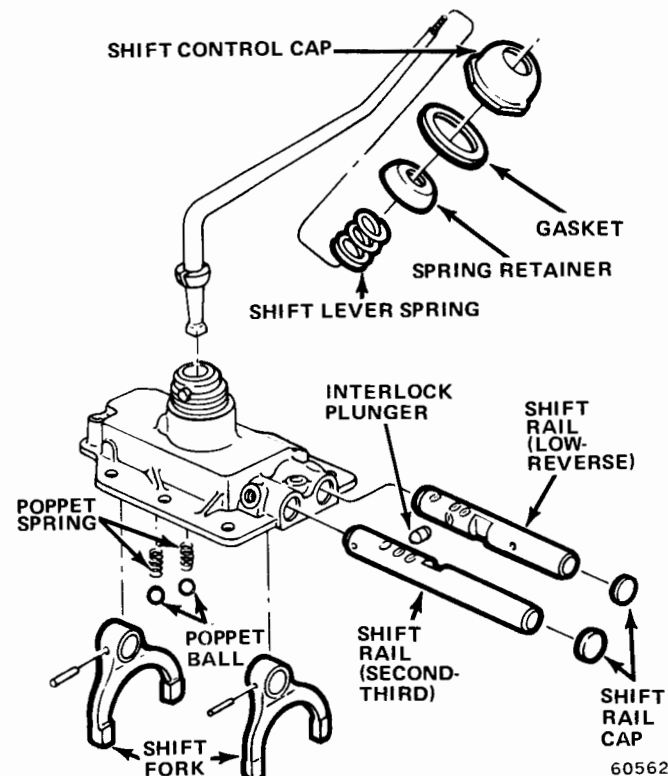

Fig. 6-17 Shift Control Housing—CJ Models
(1) Remove backup lamp switch and transmission controlled spark switch (TCS) if equipped.
(2) Unthread shift control housing cap and remove cap, gasket, spring retainer, and shift lever spring as assembly (fig. 6-17).
(3) Invert housing and mount in vise. Clamp housing at shift lever tower. Do not overtighten.
(4) Move Second-Third shift rail to rear of housing, rotate shift fork toward First-Reverse rail until roll pin is accessible. Drive roll pin out of fork and rail with pin punch, and remove shift fork and roll pin.